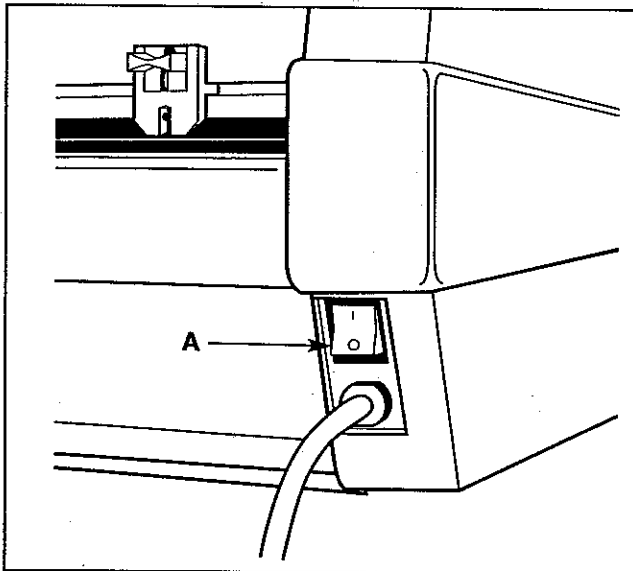

Figure 1
A. POWER SWITCH: Located at the back of the machine applies power to the laminator. The "POWER" lamp will illuminate when position marked "I" is pushed. The off position marked "O" removes power from the laminator (Figure 1).